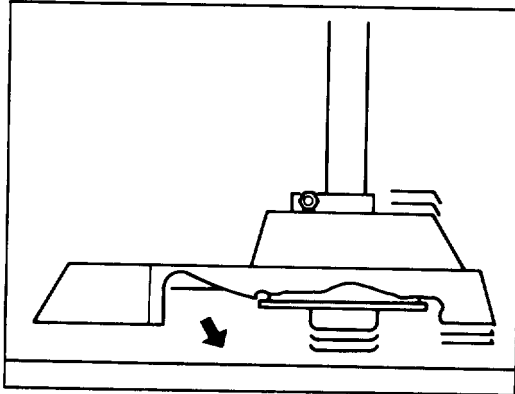

Figure 9
### LENGTHENING CUTTING LINE (Fig. 9)
1. To lengthen line, firmly tap spool on the ground while the engine continues to run at normal cutting RPM (Fig. 9). The line will be fed from the spool and cut off to the proper length by the cutting knife attached to the shield.